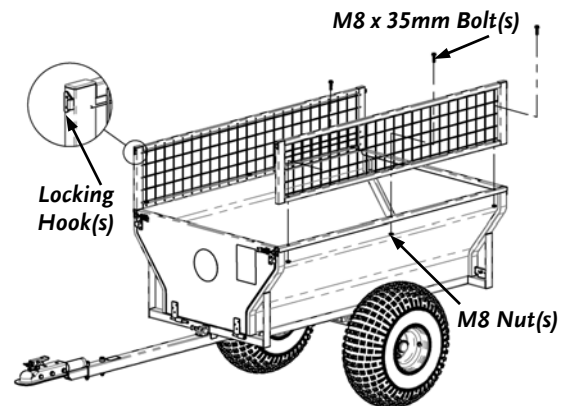

Figure 22
1. Install the Long Wall Extenders first by inserting three M8 x 35mm Bolts through the Extender and the pre-drilled Holes in the sheet metal of the Bed (**Figure 22**). Secure with three M8 Lock Nuts under the Lip of the Bed. Repeat for the other side.
NOTE: Orient the Locking Hooks on the Wall Extenders to the outside of the Bed Frame (**Figure 22**).